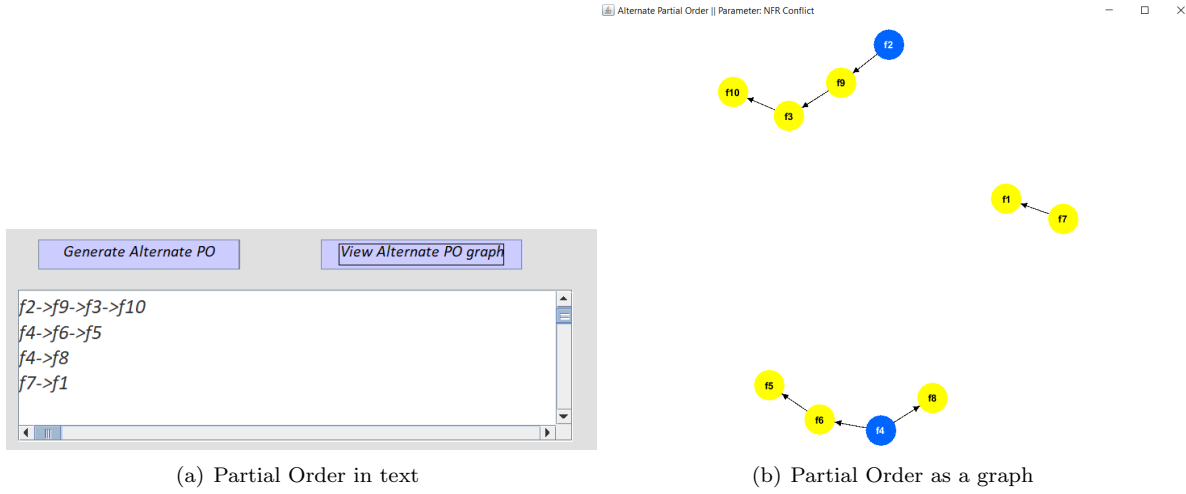

Figure 9: Alternate Partial Order in Iteration 1
- STEP-6.* Click on the "Generate Alternate PO" button (refer to to portion marked as **E** in Figure 7) to generate the Alternate Partial Order. Partial order in the form of linear sequence(s) that will be displayed in the white text area (refer to boxed portion Figure 9(b)).
- STEP-7.* Click on "View Alternate PO Graph" button (refer to to portion marked as **E** in Figure 7) to see the alternate partial order in the form of a graph (refer to Figure 9(b)).